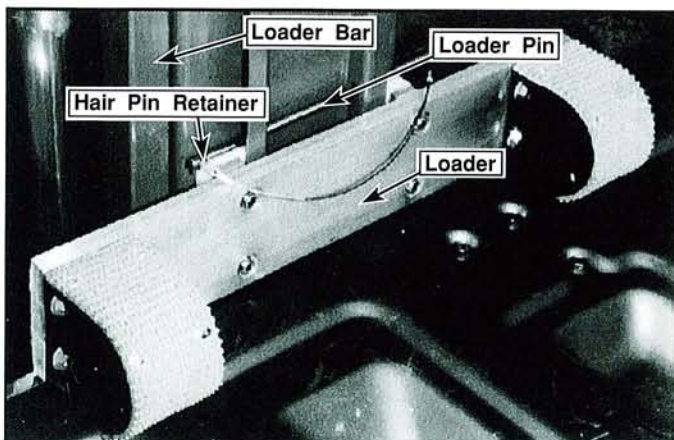

Figure 6: Loader in load position
3. Remove the loader pin and slide the loader down until it comes into contact with the vehicle bed or tailgate (Figure 6). Then replace the loader pin in the first available set of holes above the loader and secure with the hair pin retainer.